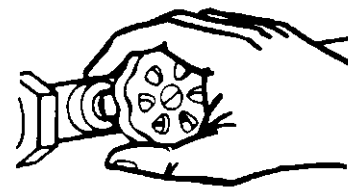

FIGURE 21.
2. Turn off the water supply to the water heater at the water shut-off valve or water meter, see Figure 21.